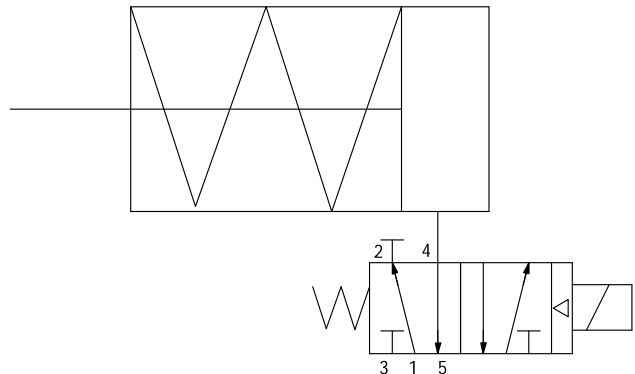

Figure 1
- Attach tubing according to Figures 1 or 2 at right, depending upon application. Attach supply tubing to Port 1 and use 3 and 5 for exhaust.